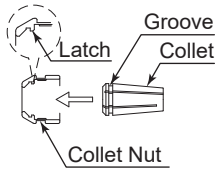

Fig. 3
- (1) Hold the collet nut in one hand, and install the collet. (Fig. 3)